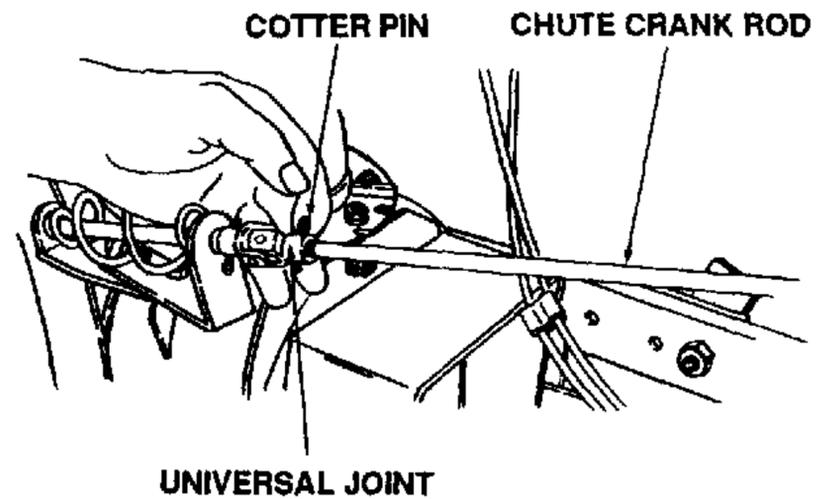

Figure 7-30. Attaching Chute Crank Rod.
8. Insert the forward end of the chute crank rod (23) into the universal joint, align the holes and secure with the cotter pin (24). See Figure 7-30.